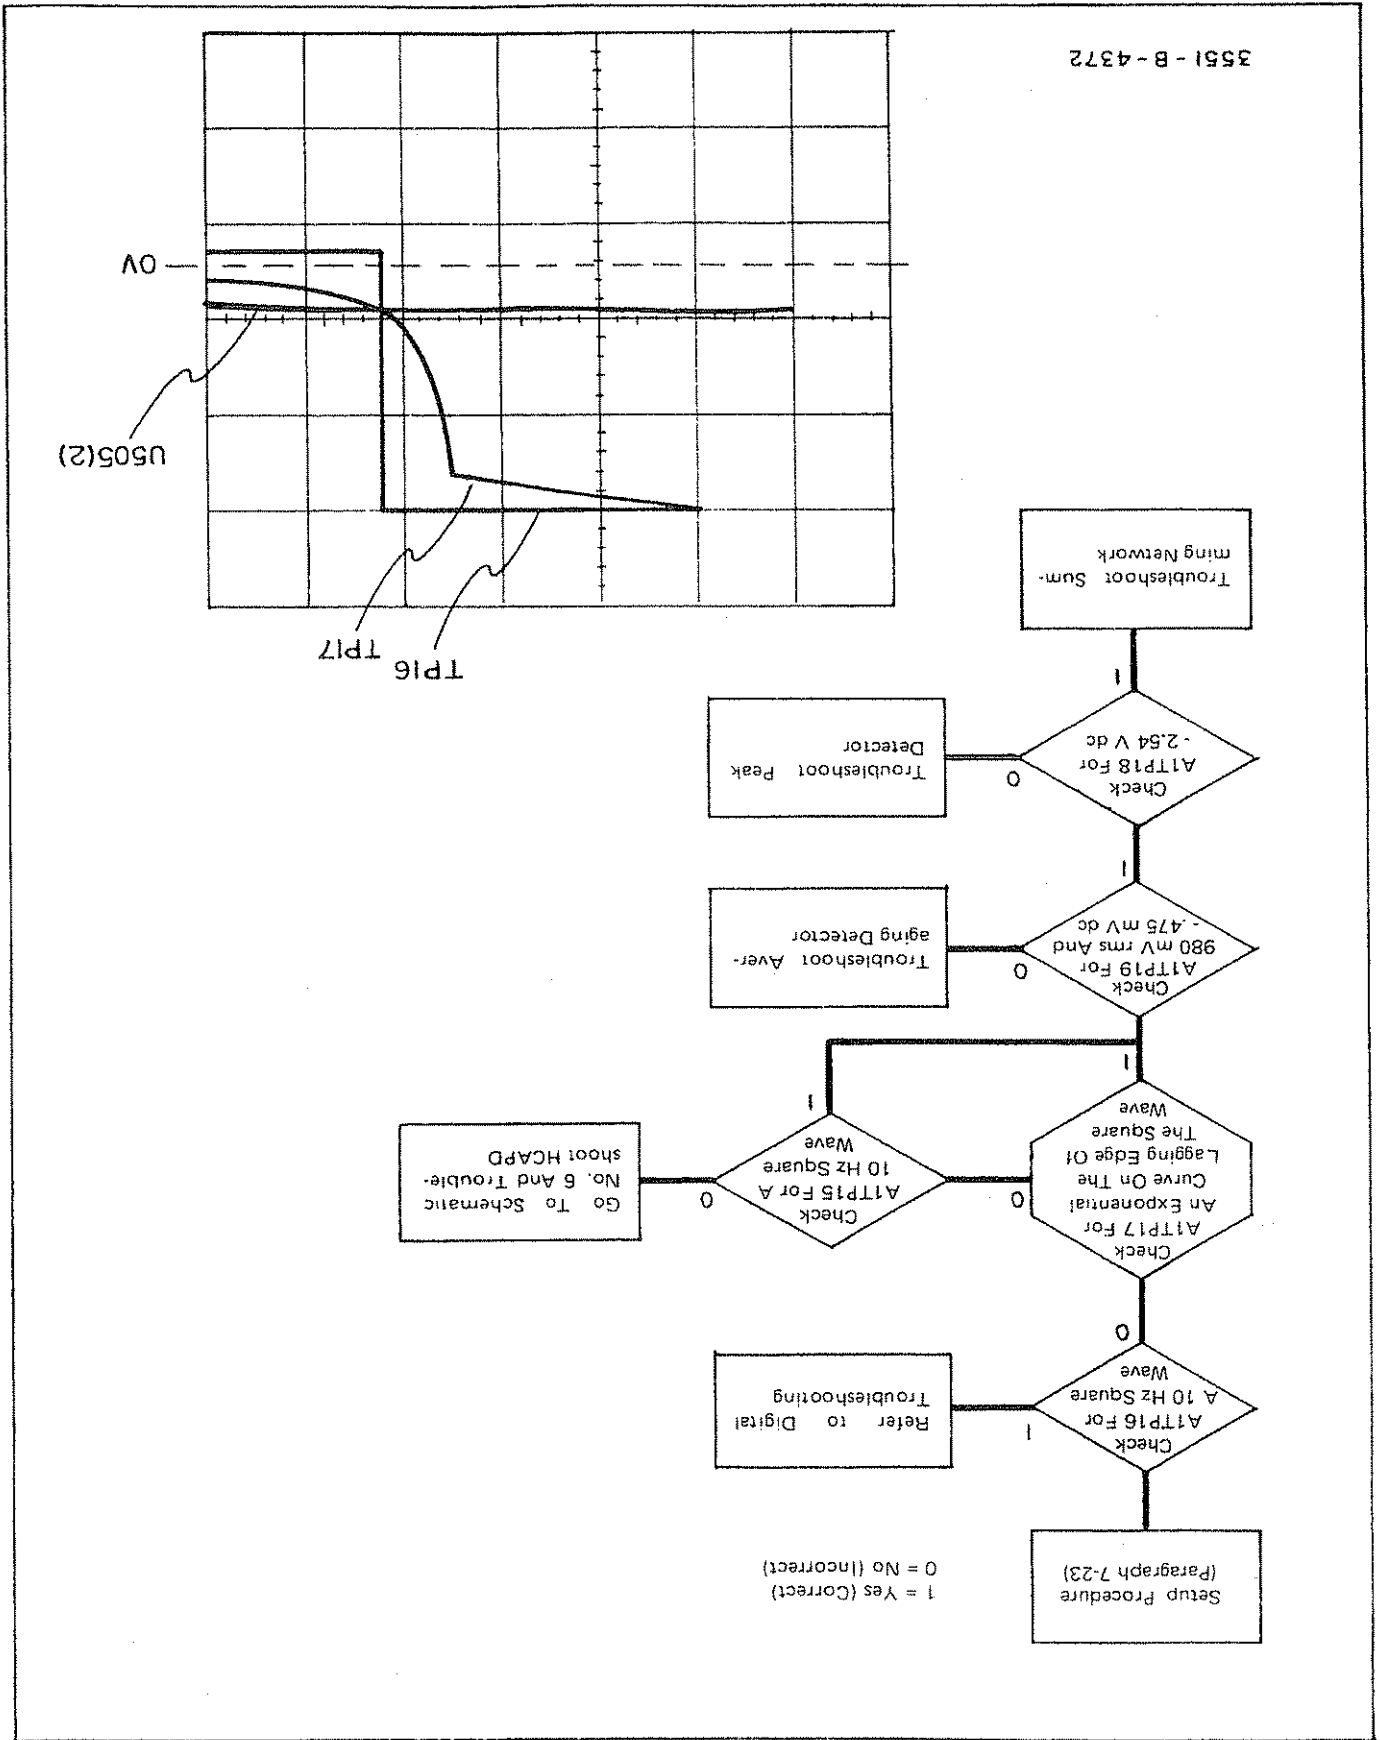

Figure 7-2. Measure Circuit Troubleshooting Flow Chart.
d. Check the measure circuit using the flow chart shown in Figure 7-2.